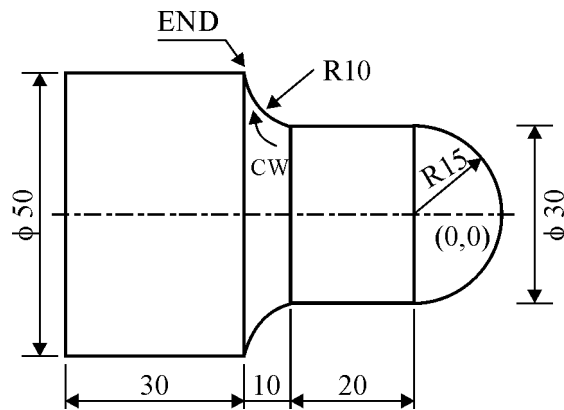

Fig No. 1
- Prepare a part program to machine the work-piece shown in Fig No. 1. Assume suitable data.